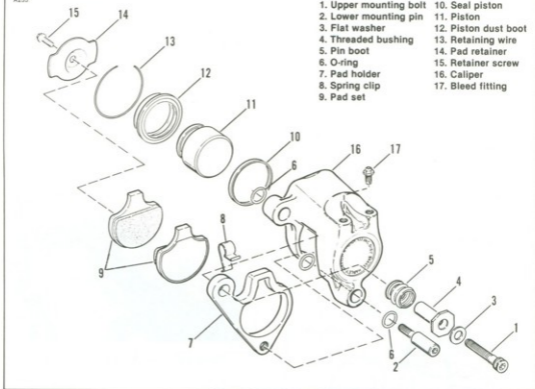
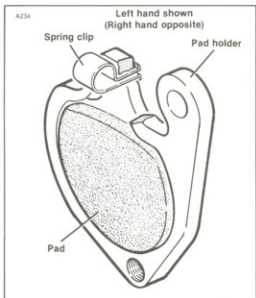

Figure 2-59. Front Brake Caliper (left)
Figure 2-60. Spring Clip Installation
FRONT BRAKE CALIPER 1984 FX MODELS (Figure 2-59 and Figure 2-60)
4. Position the gap of the retainer wire at the top of the caliper and compress the retainer wire (13) into the piston bore. Push the retainer wire firmly against the piston dust boot.
7. Lay the pad holder (7) down on a firm flat surface. The upper mounting bolt hole must be positioned at the upper right.
8. Install the spring clip (8) at the top of pad holder (7) as shown in Figure 2-60.
9. Take pad (9), the pad that has the insulator backing, and place it on top of the spring clip with the lower end of the pad slightly entering the opening of the
Installation (Figure 2-59)